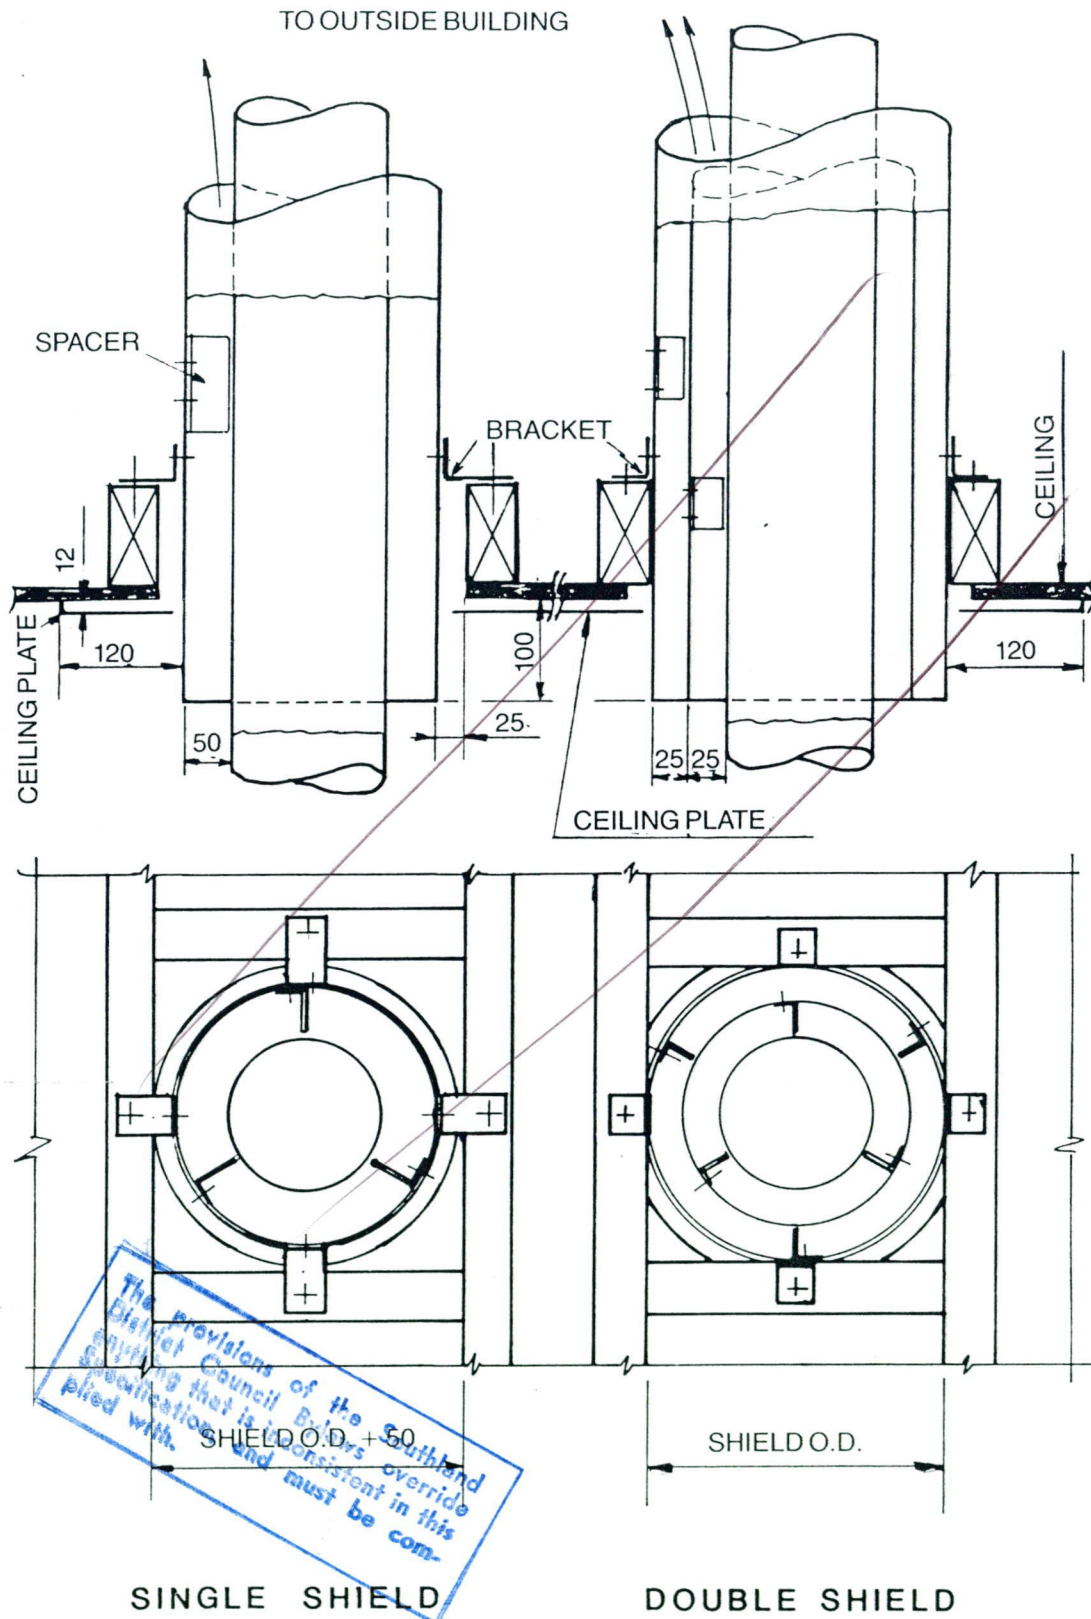

Fig. 5
- (a) Below ceiling level, using a heat resistant ceiling plate; cooling air is drawn from the heated room and discharged outside the building (see fig. 5).
While effective for protection, the arrangement in fig. 5 tends to waste room heat, overcool the flue pipe, and it does not provide for adequate firestopping. The arrangement shown in fig. 6 and an alternative thermosiphon shield design is shown in Appendix F. Fig. F1 may overcome and minimize this heat loss.